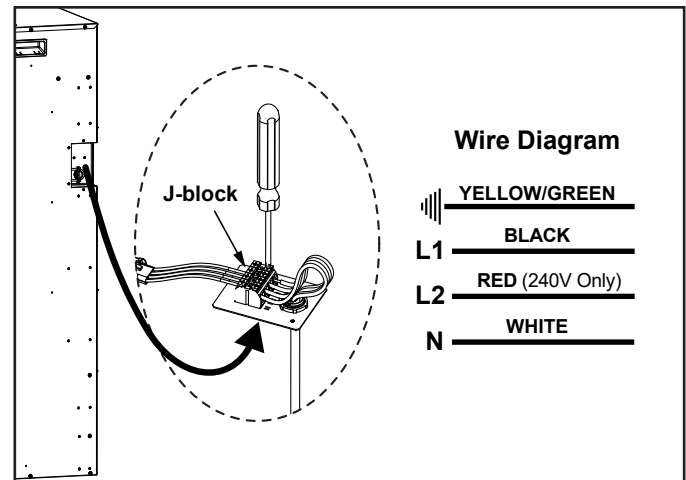

Figure 23 Electrical Connection
1. Remove the J-block plate located on the right side of the appliance. Keep the two (2) screws for J-block plate reassembly.
2. Install a NM-B wire strain relief into the J-block plate. Terminate type NM-B wire to the J-block, ensure connections are secure and tighten the wire strain relief. To load wire conductors into the J-block, depress the spring-loaded terminals on the J-block by hand or with a screwdriver. See Figure 23.
3. Reinstall the J-block plate to the appliance with the two (2) retained screws.